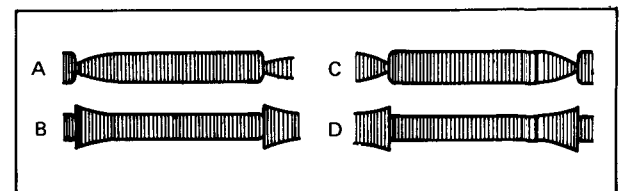
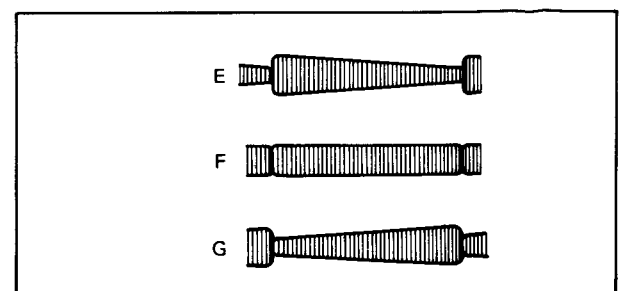

Fig. 4-50 Minimum FM output (incorrect examples)
Fig. 4-51 Minimum FM output (correct examples)
- If the waveform becomes as shown by A or B of Fig. 4-50, carefully adjust the supply guide roller height so that the waveform becomes as shown by E, F or G of Fig. 4-51. At this time, if the waveform fluctuates, adjust to the point of minimum fluctuation.
- If the FM waveform appears as shown by C or D in Fig. 4-50, carefully adjust the take-up guide roller height to obtain a waveform such as shown by E, F or G of Fig. 4-51. At this time, if the waveform fluctuates, adjust to the point of minimum fluctuation.